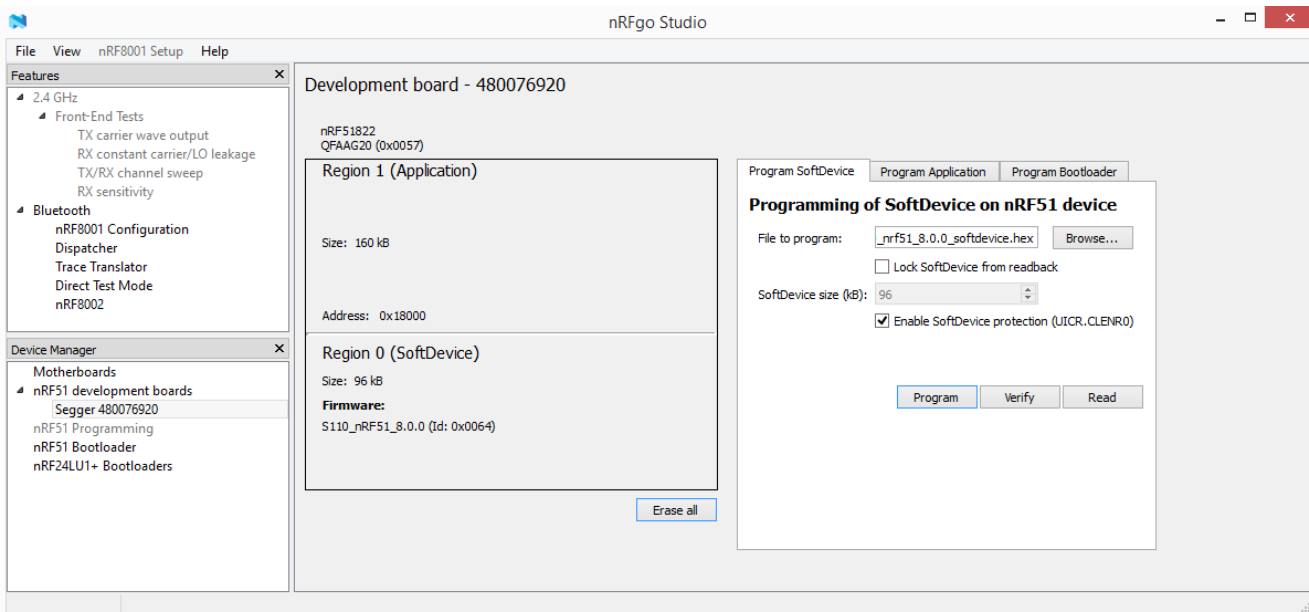

Figure 5- nRFgo Studio SoftDevice window
1. Open the Nordic nRFgo Studio application. In the 'Device Manager' window, select 'nRF51 Programming.' There will be a device named "Segger," followed by a serial number and a programming interface in the main window (see Figure 5)
6. After programming, nRFgo Studio should look similar to Figure 5.